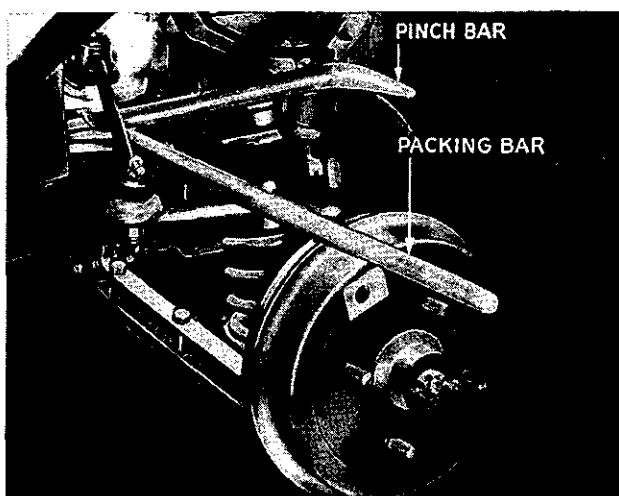

Fig. 10. Showing method of releasing bell pin from steering box drop arm
9. Having partially removed the tie rod end nut, a pinch bar suitably supported on the chassis may be used to prize the tapered end of ball pin out of the drop arm as shown in Fig. 10.